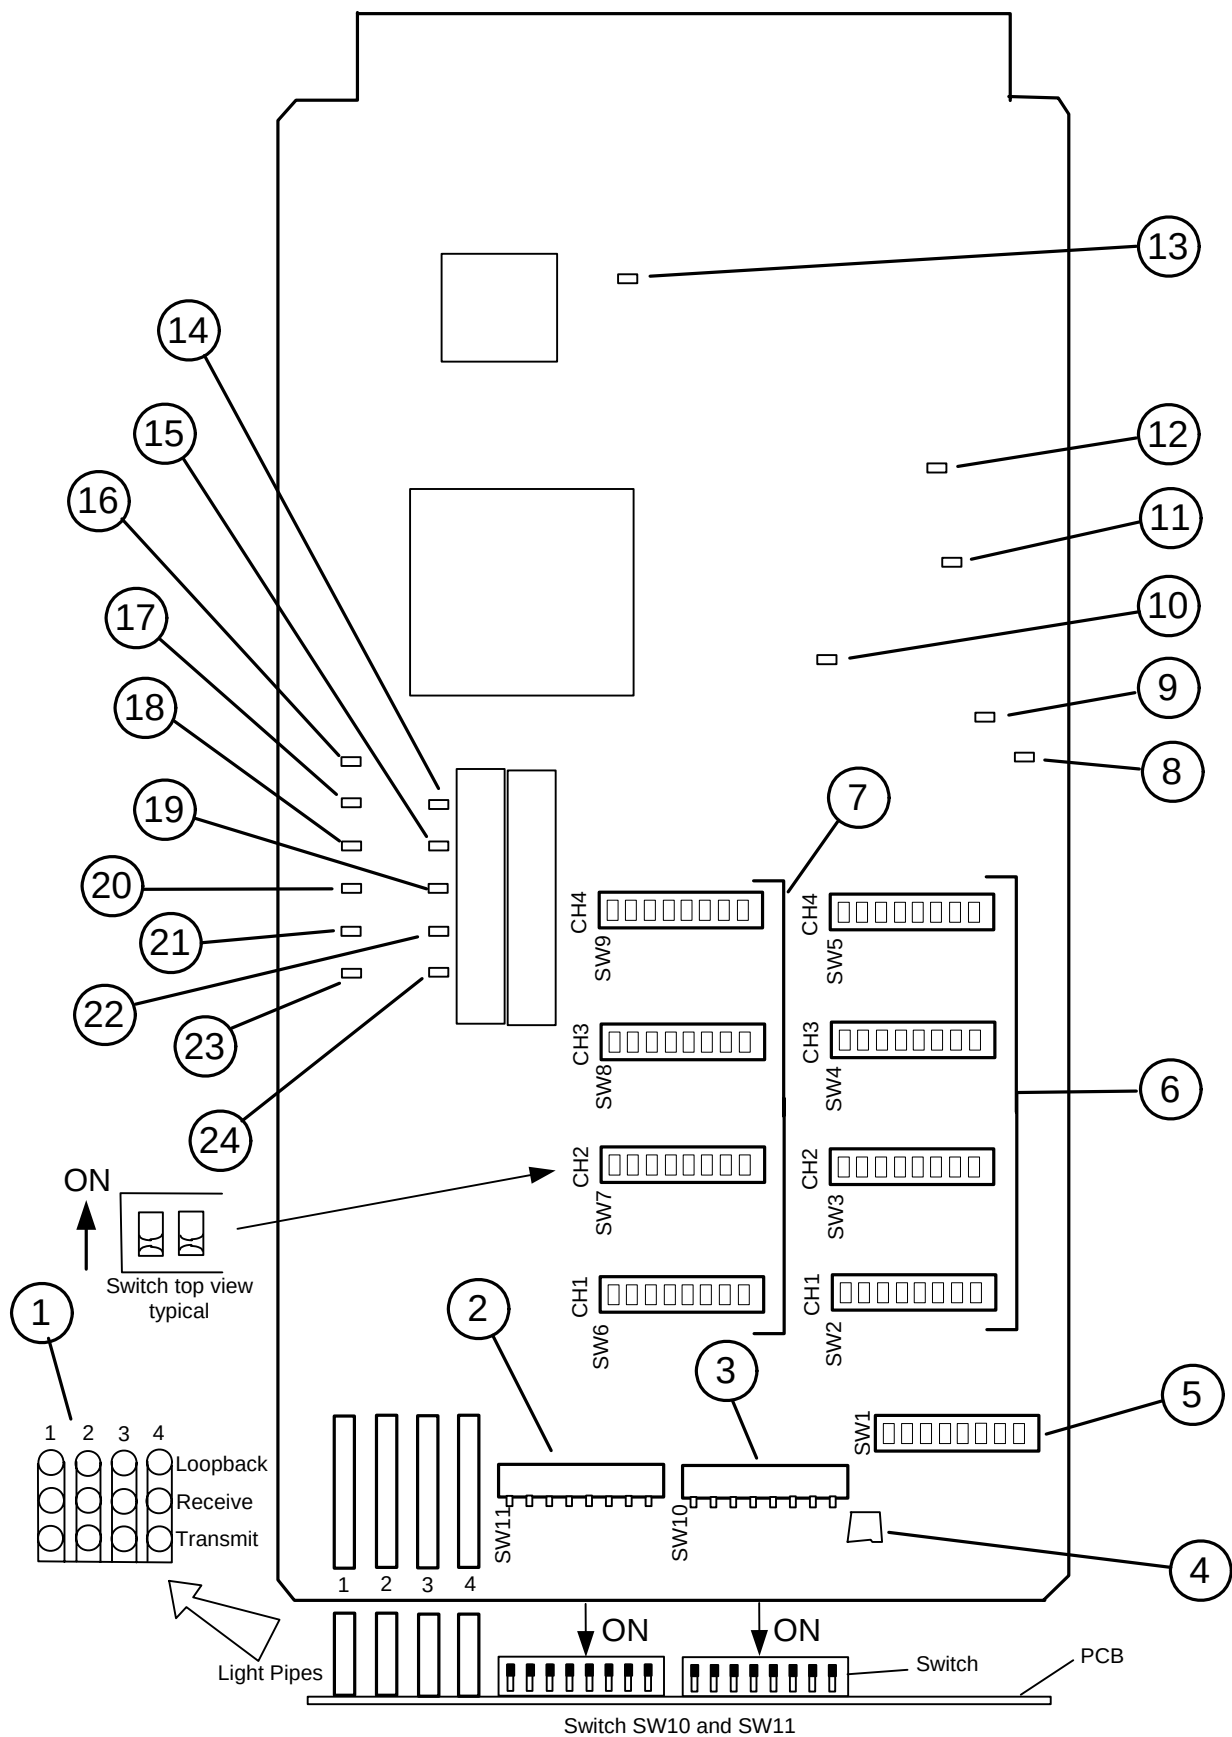

Figure 2. Controls and Indicators, RFL DA-291B Four Port Asynchronous Data Module
6. Refer to Figure 2 and Table 2 for the location of switches on the DA-291B.